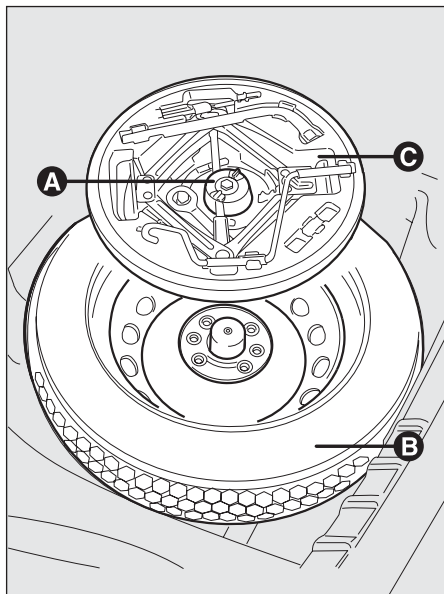

fig. 145
- ☐ unscrew the locking device A-fig. 145;